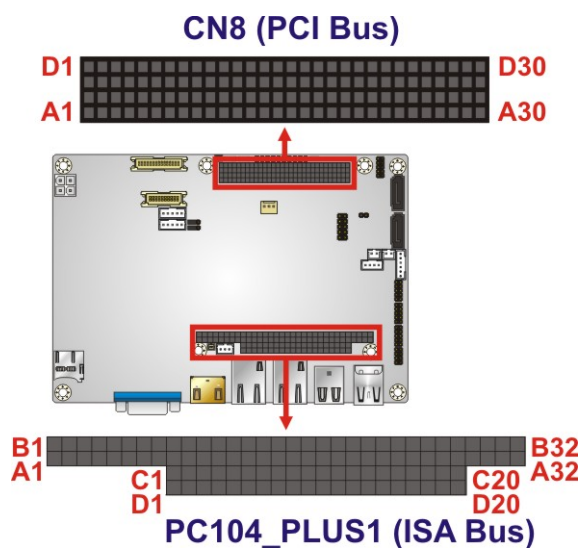

Figure 3-14: PC/104-Plus Slot Location
- CN Location:** See **Figure 3-14**